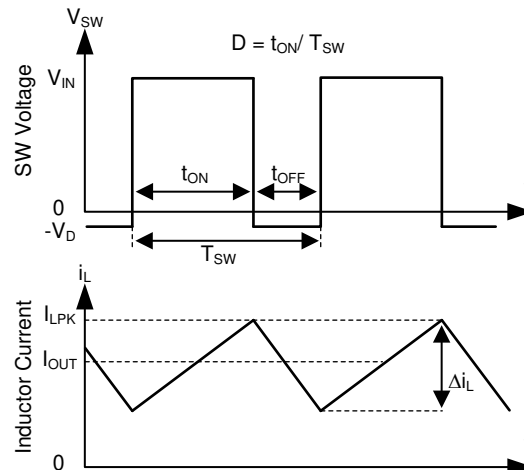

图 10-2. SW Node and Inductor Current Waveforms in Continuous Conduction Mode (CCM)
The following operating description of the TPS2585x-Q1 refers to the Functional Block Diagram. The TPS2585x-Q1 integrates a monolithic, synchronous, rectified, step-down, switch-mode converter with internal power MOSFETs and USB current-limit switches with charging ports auto-detection. The TPS2585x-Q1 offers a compact and high efficiency solution with excellent load and line regulation over a wide input supply range. The TPS2585x-Q1 supplies a regulated output voltage by turning on the high-side (HS) and low-side (LS) NMOS switches with controlled duty cycle. During high-side switch ON time, the SW pin voltage swings up to approximately V_{IN} , and the inductor current, i_L , increase with linear slope $(V_{IN} - V_{OUT}) / L$. When the HS switch is turned off by the control logic, the LS switch is turned on after an anti-shoot-through dead time. Inductor current discharges through the LS switch with a slope of $-V_{OUT} / L$. The control parameter of a buck converter is defined as Duty Cycle $D = t_{ON} / T_{SW}$, where t_{ON} is the high-side switch ON time and T_{SW} is the switching period, shown in Figure 10-2. The regulator control loop maintains a constant output voltage by adjusting the duty cycle D . In an ideal buck converter, where losses are ignored, D is proportional to the output voltage and inversely proportional to the input voltage: $D = V_{OUT} / V_{IN}$.